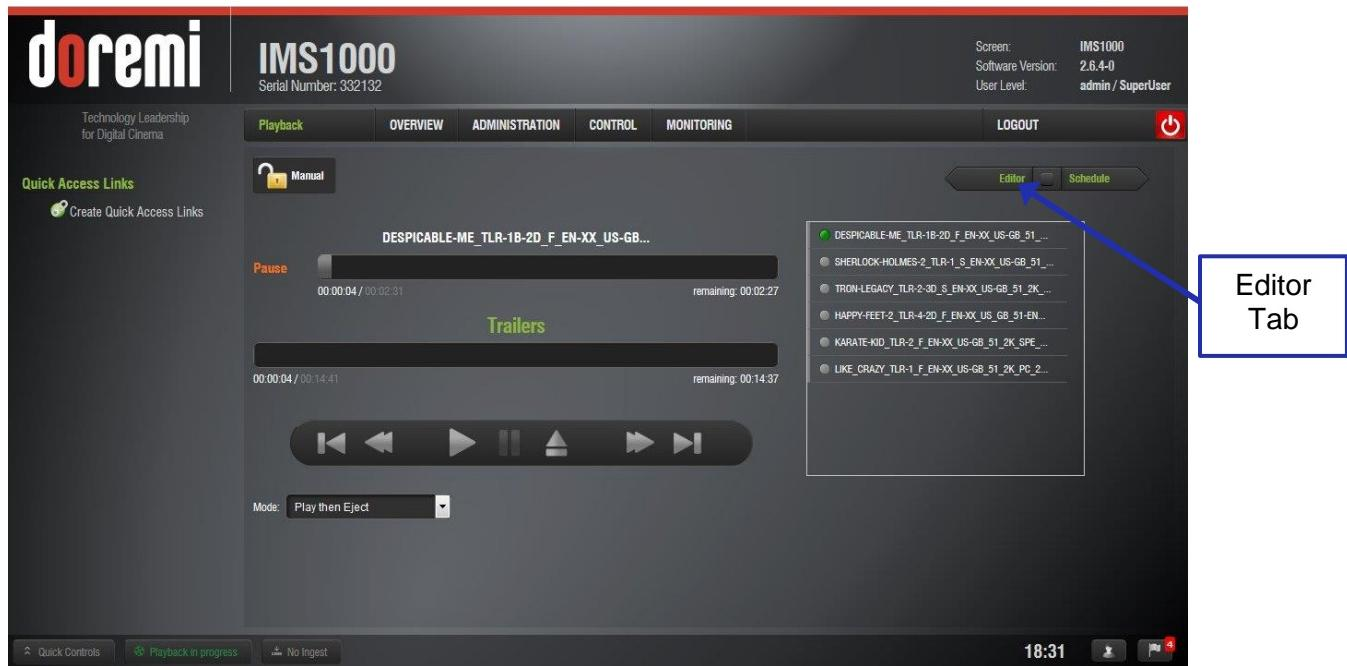

Figure 221: CineLister GUI Playback Tab
- The user will be prompted to CineLister's Playback tab. The Playback tab is the default tab that CineLister displays every time the application is opened (Figure 221).
- To access the Editor tab, click on the green arrow button on the right side of the GUI (Figure 221).